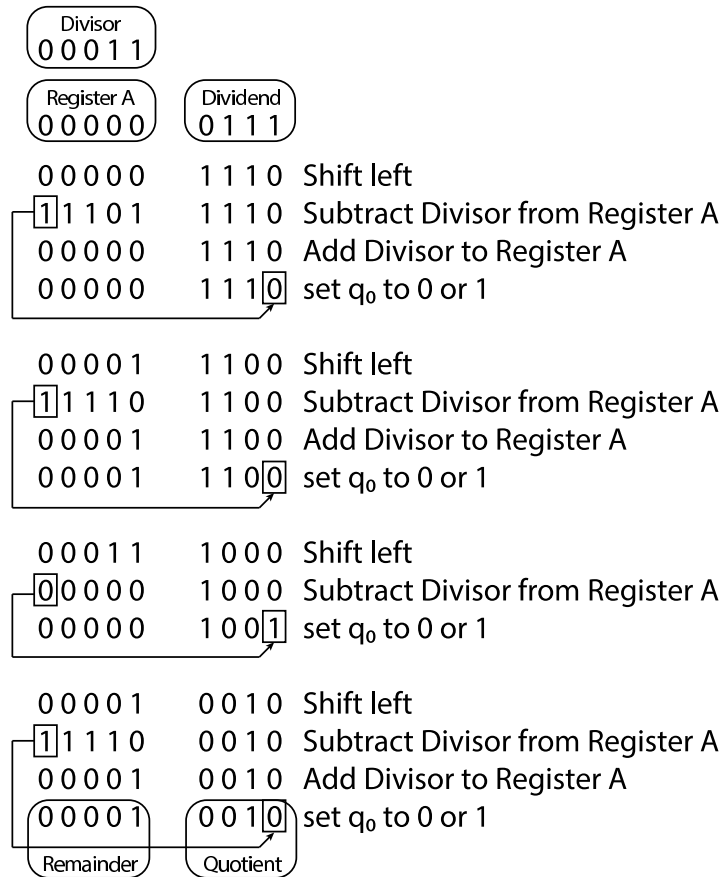
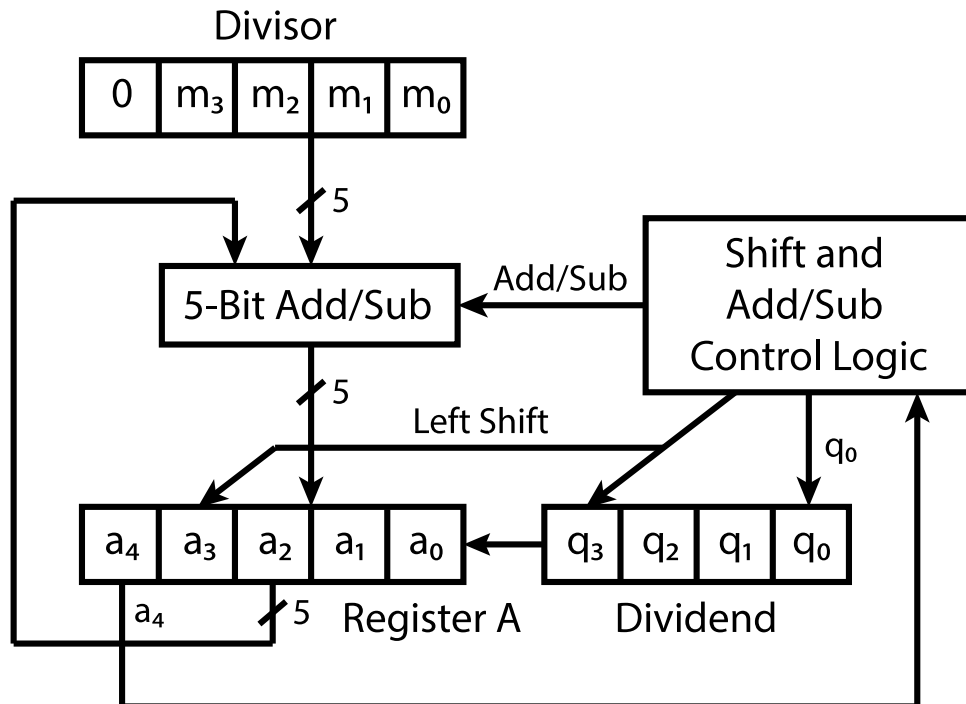

Figure 4: An example of how a restoring divider works.
Figure 5: Block diagram of restoring divider.
Figure 4 shows an example of how the restoring divider works. This mimics what you do when you do long division by hand. In this specific example, number 7 (*Dividend*) is divided by number 3 (*Divisor*). The restoring divider starts with *Register A* set to 0. The *Dividend* is shifted left and the bit shifted out of the left most bit of the *Dividend* (called the most significant bit or MSB) is shifted into the least significant bit (LSB) of *Register A* as shown in Figure 5.
The *Divisor* is then subtracted from *Register A*. This is equivalent to adding the 2's complement of the *Divisor* (11101 for the example in Figure 4) to *Register A*. If the MSB of *Register A* is a 1, then we restore *Register A* back to its original value by adding the *Divisor* back to *Register A*, and set the LSB of the *Dividend* to 0. Else, we do not perform the restoring addition and immediately set the LSB of the *Dividend* to 1.
1. Draw a schematic for the datapath of your circuit. It will be similar to Figure 5. You should show how you will initialize the registers, where the outputs are connected to, and include all the control signals that you require.